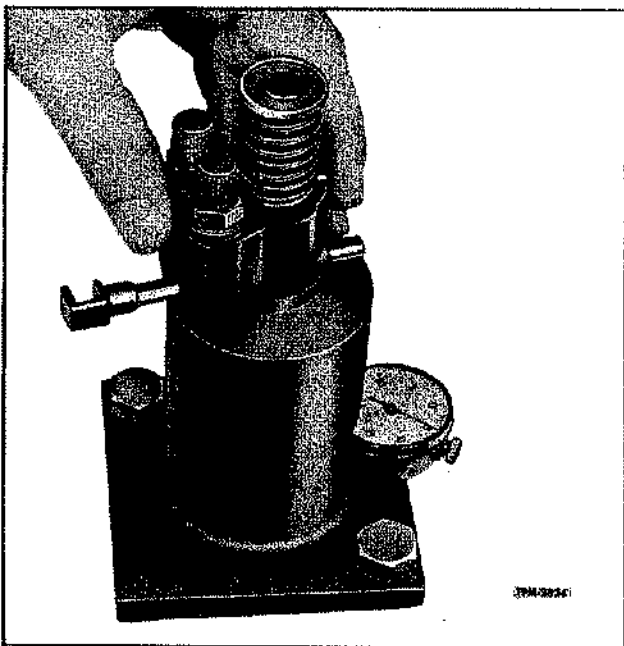

Figure 23F—Checking Injector Spray Tip Concentricity
1. Place the injector in concentricity gauge as shown in figure 23F.